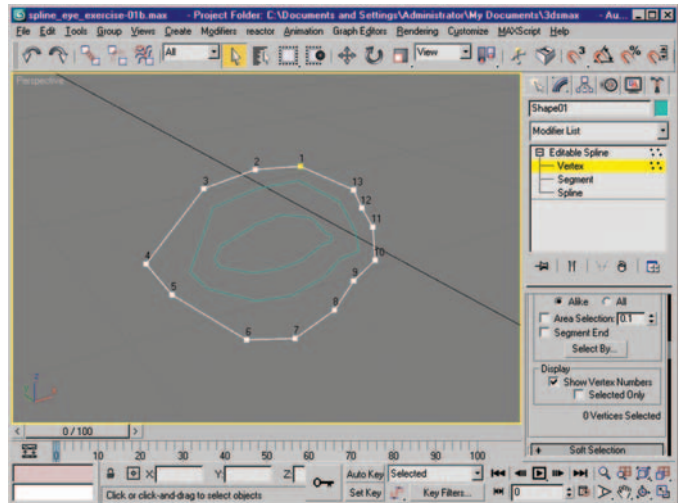

Figure 2.12 Three completed splines, with 13 points each. The lines can be left as lines or converted to editable splines if desired.
5. Create a third loop using the same point count, closing the spline when done (Figure 2.12).